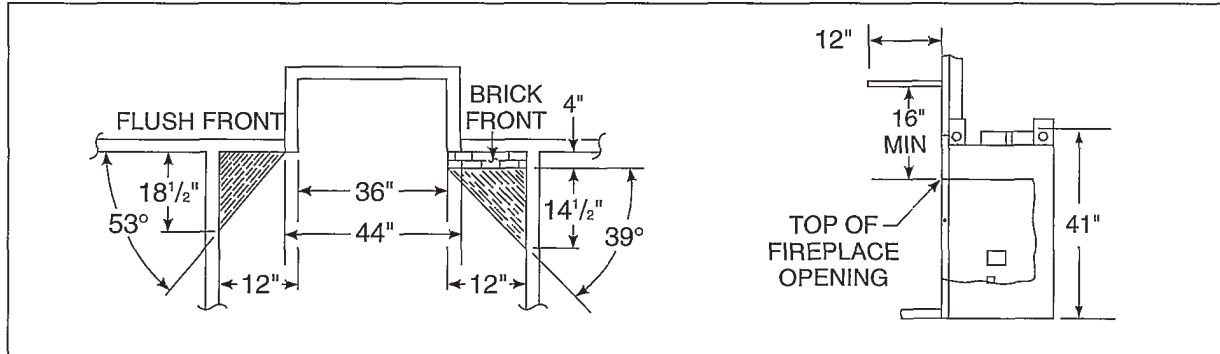

Figure 7
Adjacent combustible side walls must be located a minimum of 12" from the fireplace opening. See Figure 7. If you are using a decorative surround constructed of combustible material, it must be located
within the shaded area defined in Figure 7. Short stub walls are also acceptable if they are contained within the shaded area.
from the top and side of the firebox opening, except when they fall within the shaded area as defined in Figure 7. This mantel clearance is in accordance with Section 7-3.3.3 of ANSI/NFPA 211.
- 2 Subtract the height of the firebox assembly from the overall height of the fireplace installation. See Figure 7 (page 11).